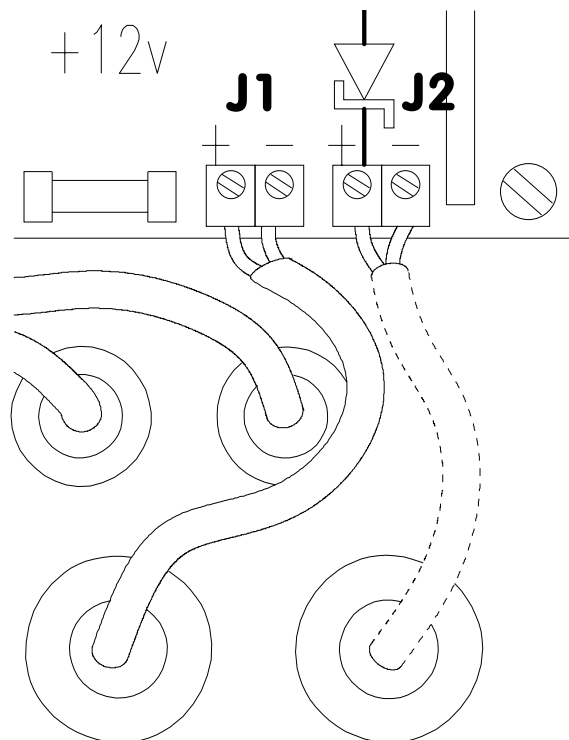

Figure 8. Tightening the 12V Cable
4. Terminate and tighten the 12V cable (see Figure 8).
Figure 8 indicates details of the electronic boards, including the location of the main connectors, fuses, and jumpers.